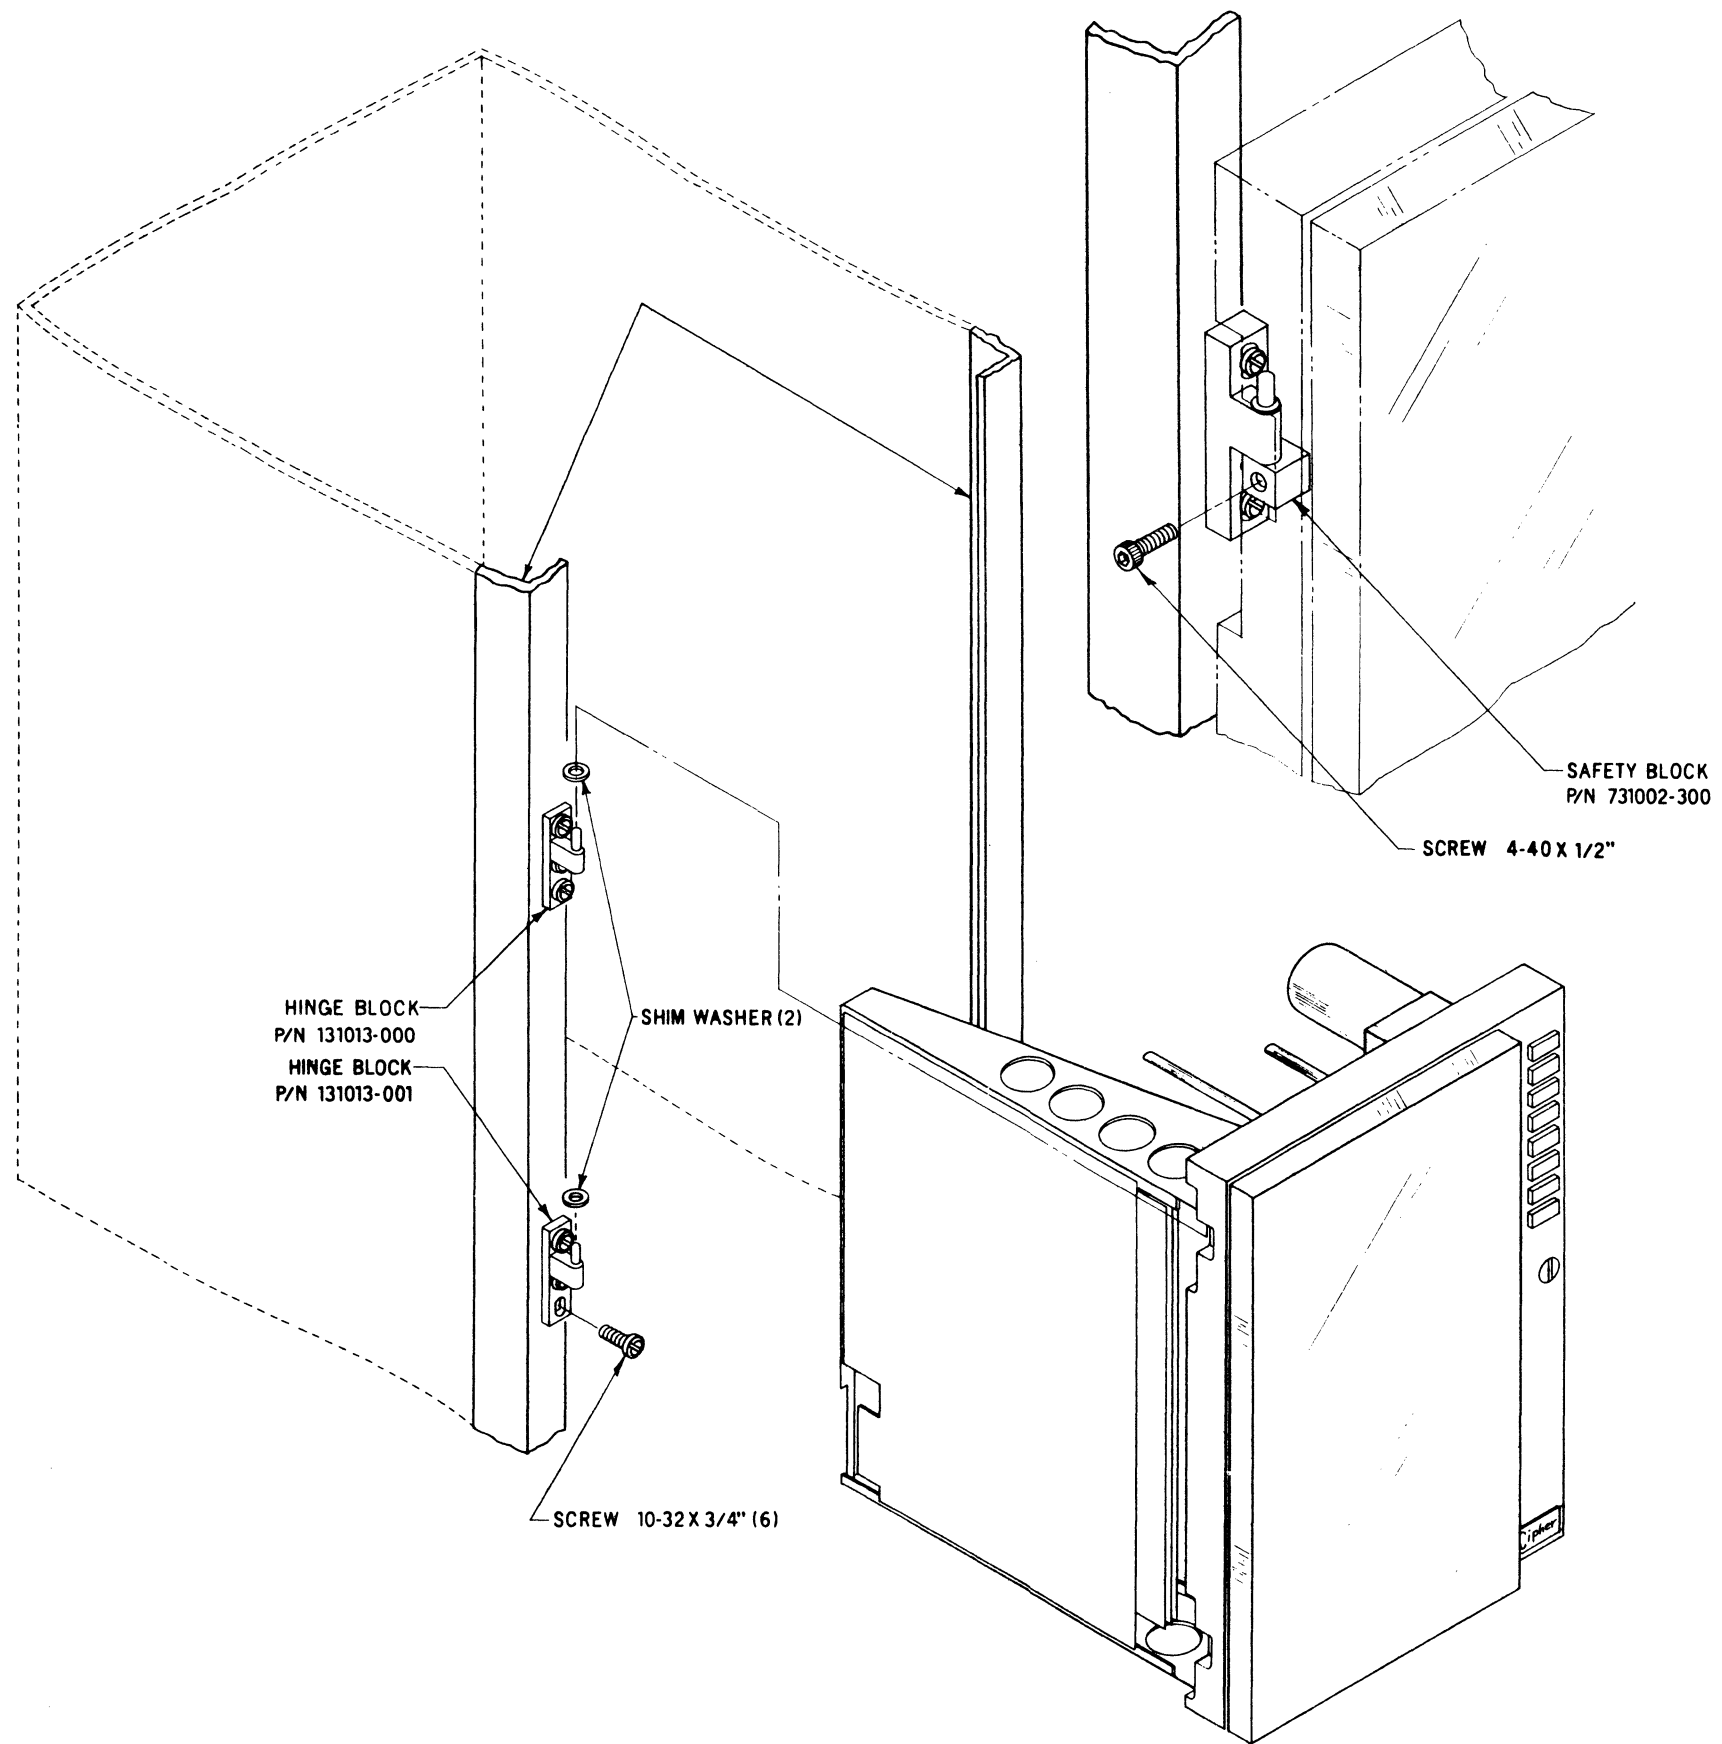

Figure 2-3. Installation Diagram
- c. Lift transport out of shipping frame, position 60 degrees from closed position, and hang it on hinge pin blocks. See Figure 2-3.
- e. Open transport to 90 degrees and install safety block, using 4-40 screw (Figure 2-3).